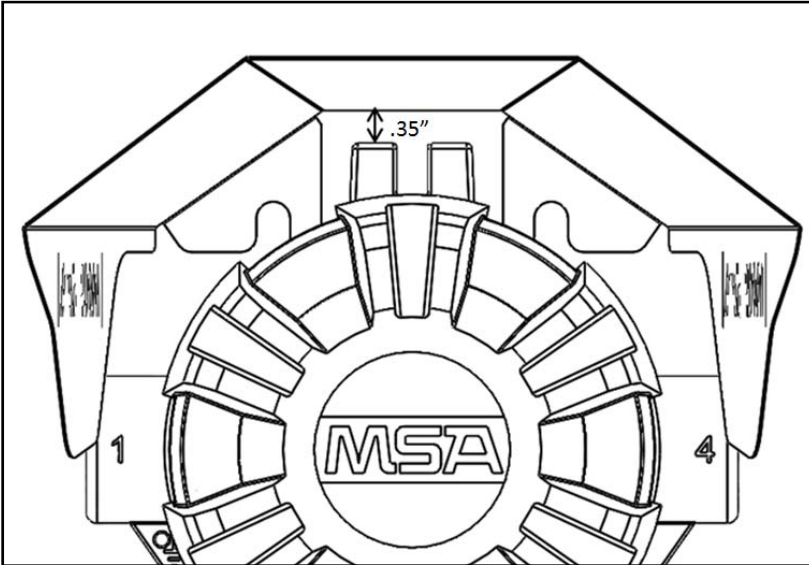

Figure 9
- (1) Attach the S5000 to the wall via the two mountings tabs.
- (2) Once attached, mark the hole locations needed for sunshield attachment by placing the sunshield approximately 0.35" above the top mounting tab surface, as shown below in Figure 9.